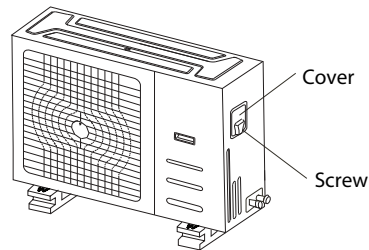

Fig. 8.1
- 2. Remove the electric cover of the outdoor unit. If there is no cover on the outdoor unit, take off the bolts from the maintenance board and remove the protection board. (See Fig. 8.1)